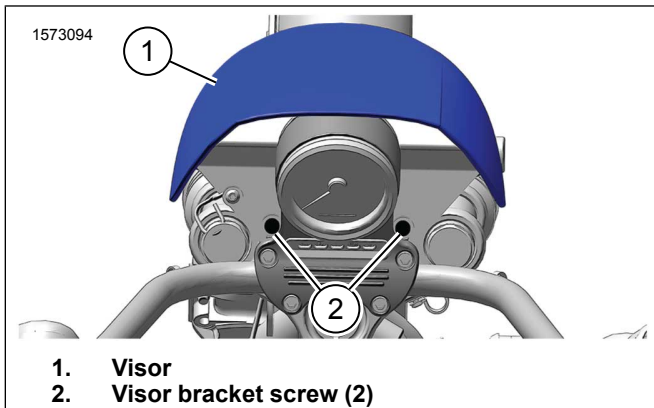

Figure 1. Visor Bracket
3. See Figure 1. Hand tighten visor bracket screws (2).